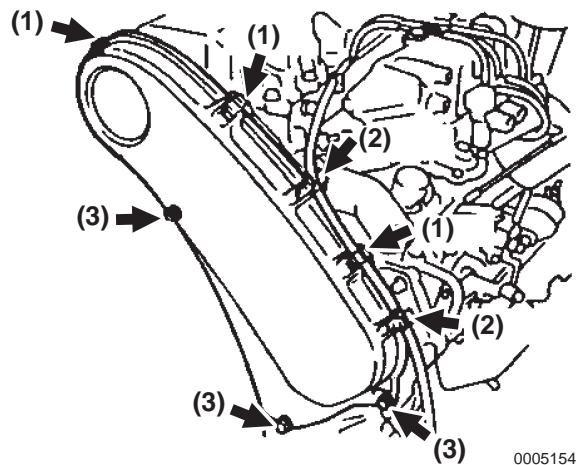

Figure 5-157
1. Remove the 3 timing belt cover clips (Figure 5-157, (1)) and 2 clamps (Figure 5-157, (2)).
2. Remove the 3 bolts (Figure 5-157, (3)), 3 seal washers, timing belt cover, gasket and insulator.